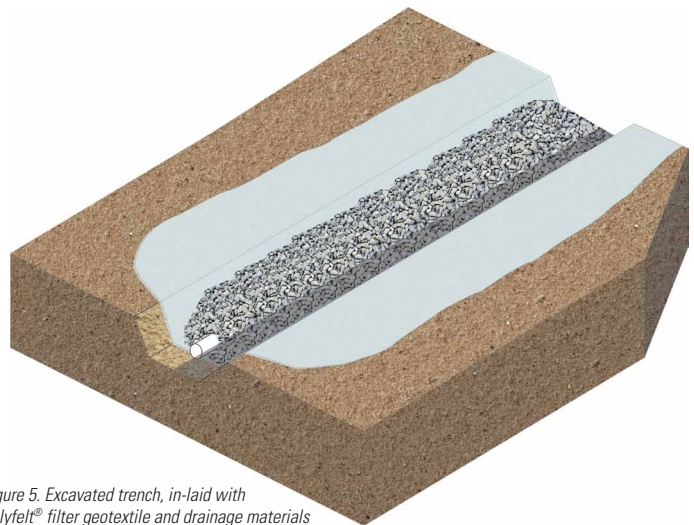

Figure 5. Excavated trench, in-laid with Polyfelt® filter geotextile and drainage materials
*Prepare and cut the geotextile to proper width prior to the installation of the trench drain. Next, place the prepared geotextile along the excavated trench. Anchor the edge of geotextile with heavy objects or pin the geotextiles on ground to prevent movement of geotextile during the installation process. Figure 5 shows a trench drain construction, in-laid with filter geotextile and drainage materials.*